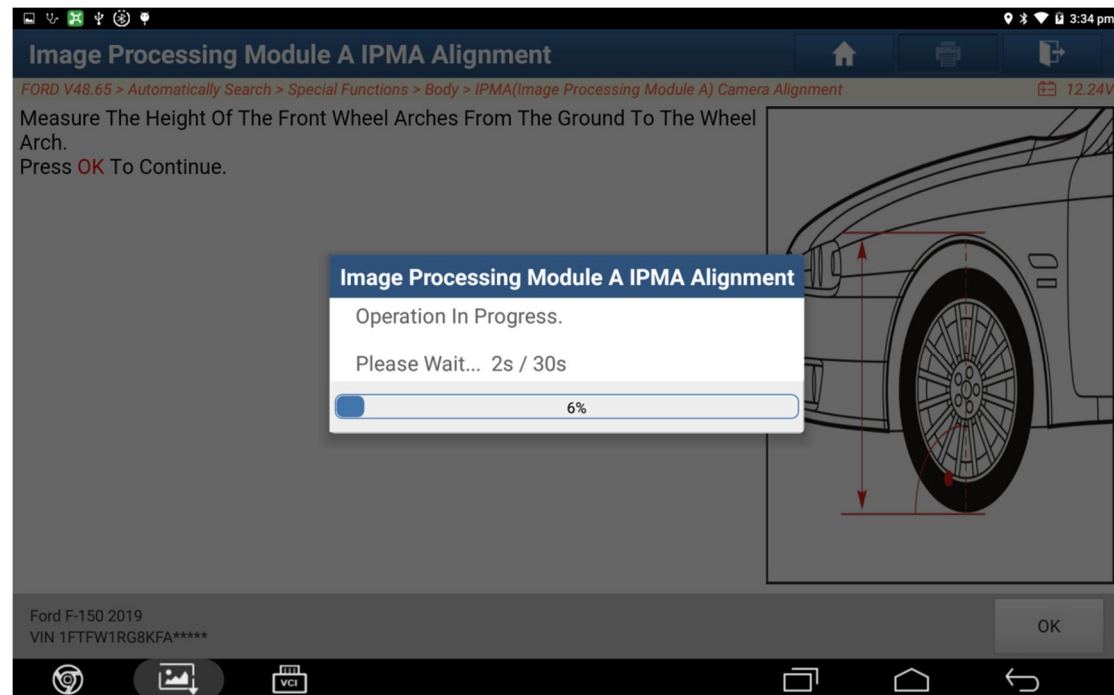

Figure 16
14. Start camera alignment and wait for the countdown to end (Figure 16).